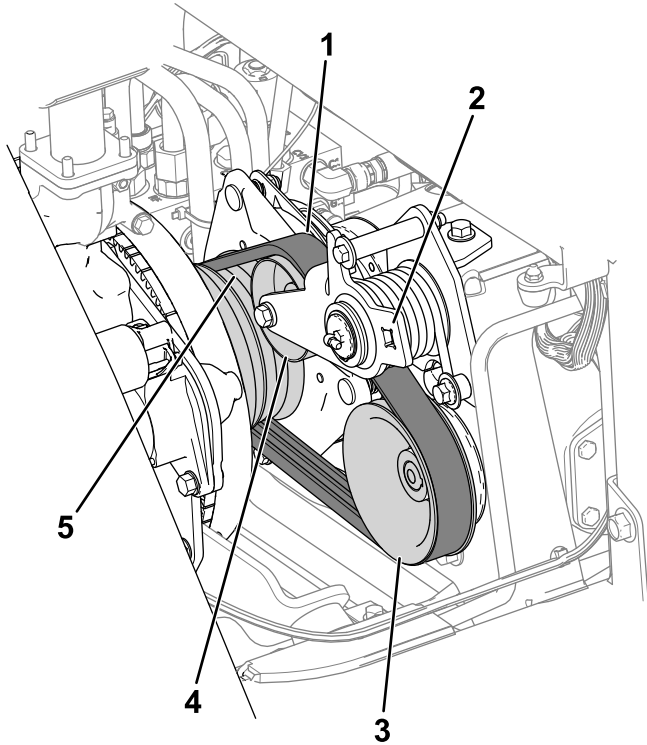

Figure 74
3. Route the belt on the engine pulley, idler pulley, and pump pulley (Figure 74).